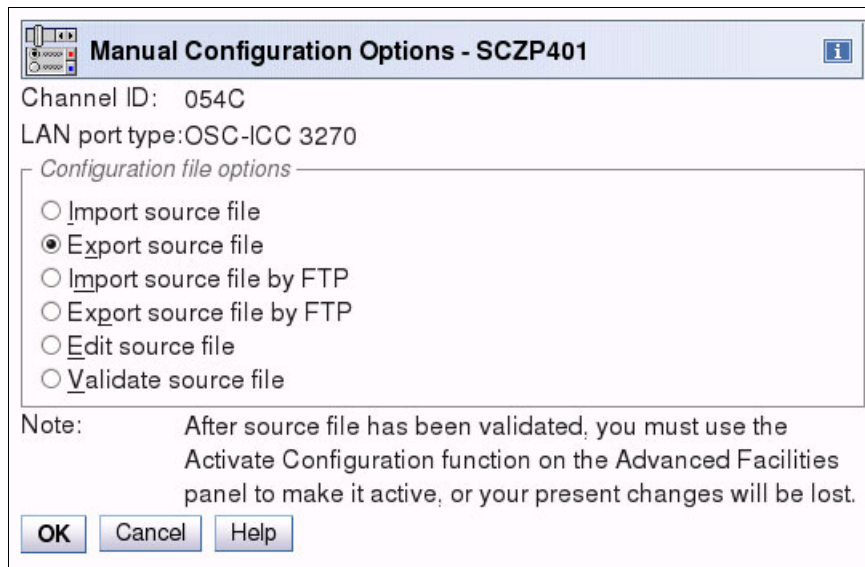

Figure 14-75 OSA Advanced Facilities: export source file
5. The Manual Configuration Options panel opens (Figure 14-75). Select **Export source file** and click **OK**.